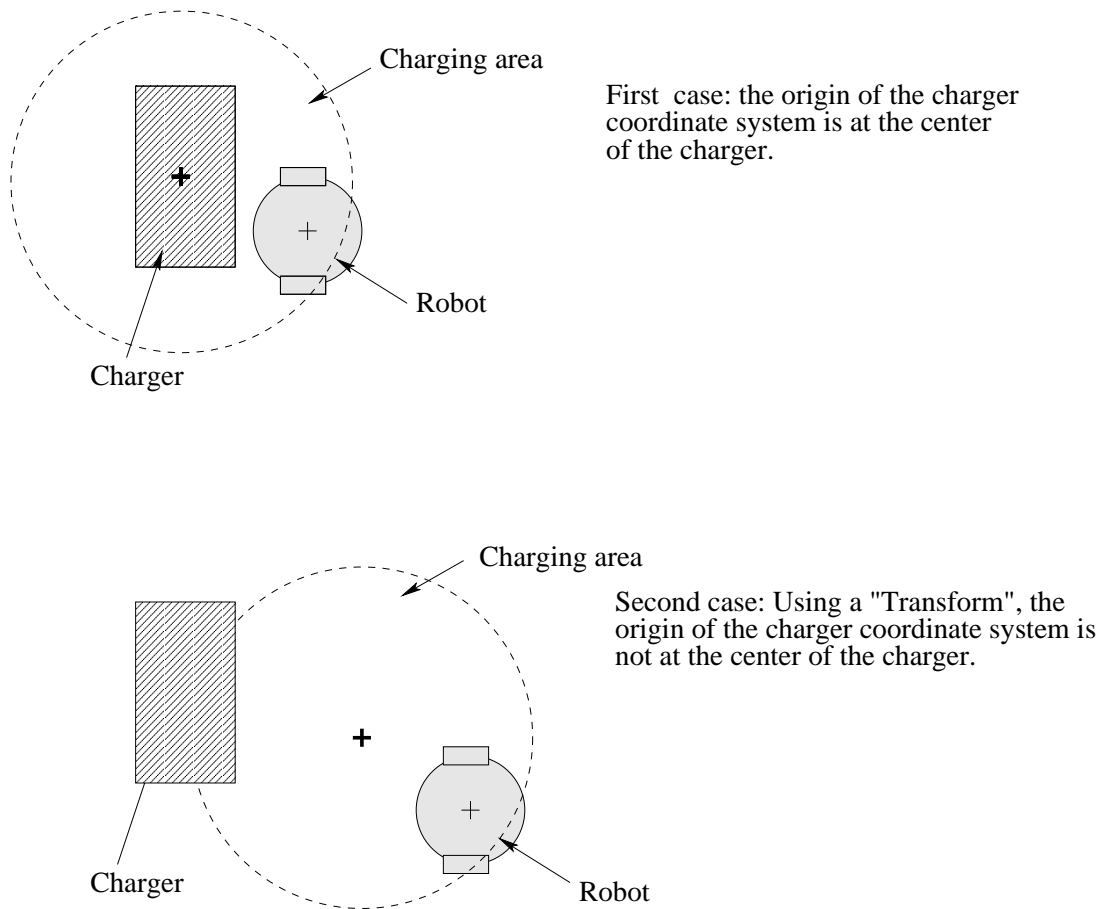

Figure 2.2: The sensitive area of a charger
- `battery`: this field should contain three values: the current energy of the charger (J), its maximum energy (J) and its charging speed ($W=J/s$).
- `radius`: radius of the charging area in meters. The charging area is a disk centered on the origin of the charger coordinate system. The robot can recharge itself if its origin is in the charging area. See figure 2.2.